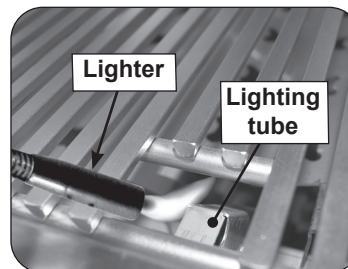

Fig. 37-2 Manual lighting via lighting tube
2. Insert either a burning long-barrel butane lighter or a burning long-stem match through the cooking grid opening to the top of the lighting tube (see Fig. 37-2). For backburners or infrared burners, hold the flame against the surface of the backburner/infrared burner.